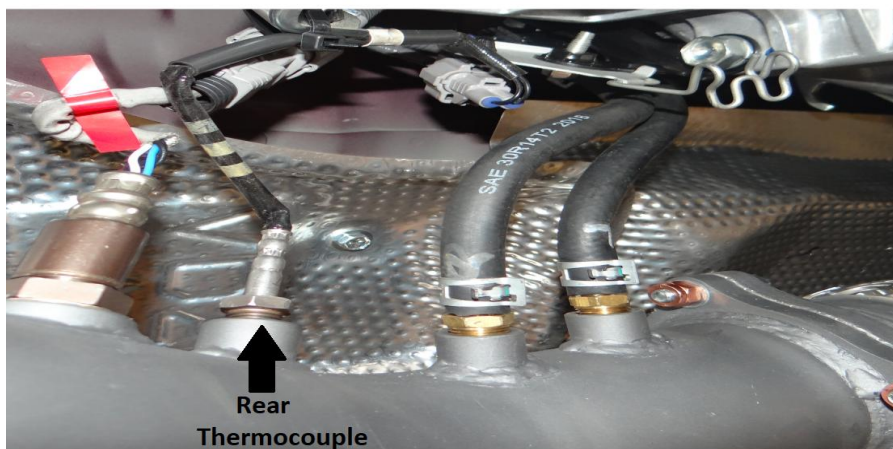

Figure 3.
15. Fit the supplied barb fittings to the first two sensor bosses in the first intermediate pipe. Refer Figure 3.
16. Fit the supplied rubber hose from the exhaust pressure sensor on the transfer case to the previously fitted barb fittings using the supplied 14mm hose clamps. Refer Figure 3.
17. Fit the previously removed thermocouple and o² sensor to the first intermediate pipe. Refer Figure 3. **NOTE: All thermocouples must be fitted in the same order they were removed from the DPF Refer Figure 3 & 4.**